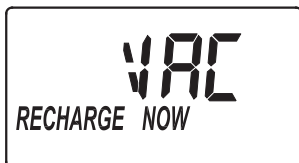

FIG. 20
1. Press and hold the CLEAN button for a few seconds, until "RECHARGE NOW" flashes in the display, as shown in Figure 20.